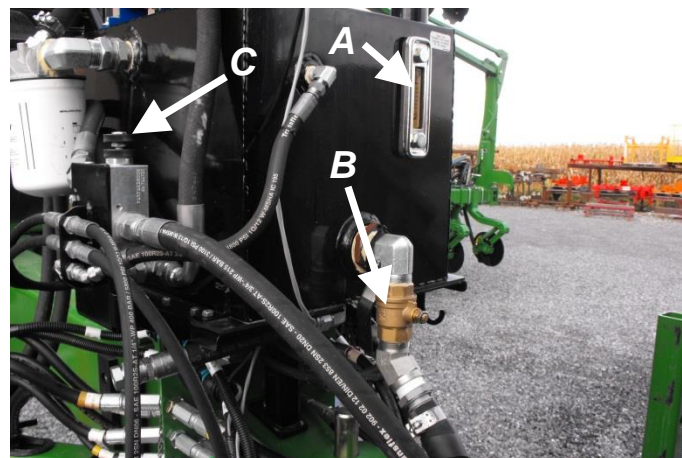

Figure 6
5. Check the oil level in the oil tank [Figure 6, **A**].
6. Verify the supply valve (suction hose) on the reservoir to the PTO pump, it should be open [Figure 6, **B**].
10. Adjust the flow control valve [Figure 6, **C**] to reach the desired pressure in the air distribution system. Consult “START-UP